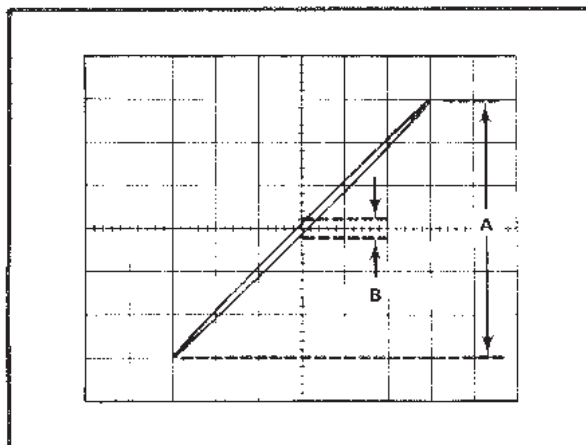

Fig. 1-10. Phase difference measurement from an X-Y display.
4. Advance the INTENSITY control until the display is at the desired viewing level. Set the amplifier deflection factors and variable Volts/Div controls for six divisions of vertical and horizontal deflection, and set the position controls to center the display on the graticule as shown in Fig. 1-10.
5. Measure and record the overall vertical deflection (A) and the opening of the Lissajous display (B), measuring vertically at the graticule horizontal center line (see Fig. 1-10).
EXAMPLE: Assume a display as shown in Fig. 1-10 where A is 6 divisions and B is 0.4 division.